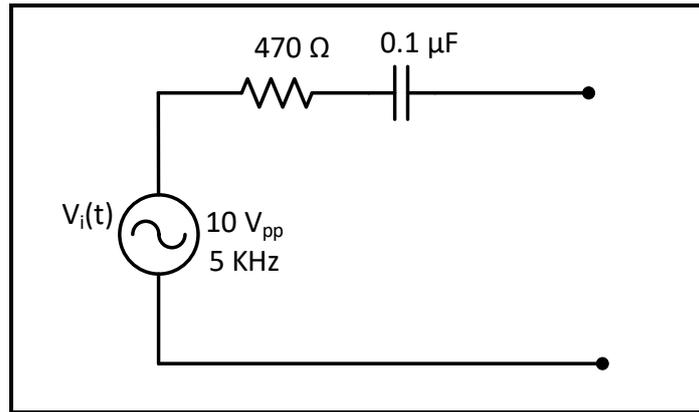

Figure 9.8
3. For the circuit of Figure 9.8, design a load that is when connected to the output terminals of the circuit will extract maximum average power, then calculate magnitude of P_{Max} .
1. For the circuit shown in Figure 9.8: connect the load that you designed in your prelab in order to get the maximum power transfer to the load, to the circuit terminals.